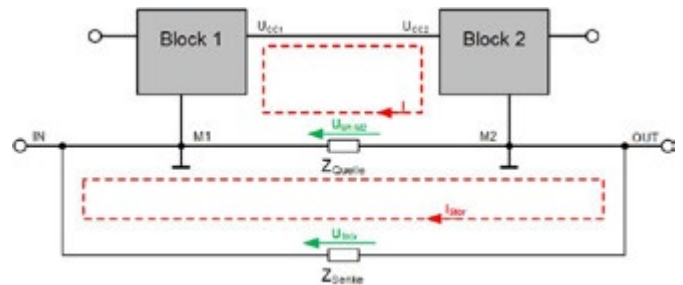

Figure 2: Analog circuit with ground loop
Only when the two ground nodes M1 and M2 are connected together via an additional line an interference current can flow. This in turn generates a voltage drop across the line impedance  $Z_{sink}$  - which consequently leads to DC interference. An additional connection arises, e.g. through inserting another part of the circuit with its ground structure into the existing ground structure, as depicted in Figure 2.
**EMC** – As a result of the spatial extent of the ground loop, e.g. on a circuit board, to a first approximation it can also be viewed as a kind of loop antenna (see Figure 2). This antenna can now both transmit/output interference, as well as “receive” interference from the surroundings and thus input into the circuit. This loop antenna is eliminated by using an isolated DC/DC power module, as there is no longer any closed circuit path.